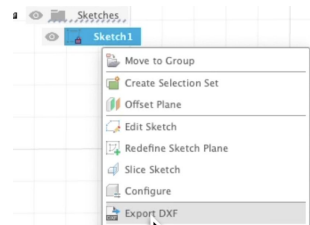

Figure 1.1
1. Right-click on your sketch in the browser tree and select **export DXF** (see Figure 1.1).